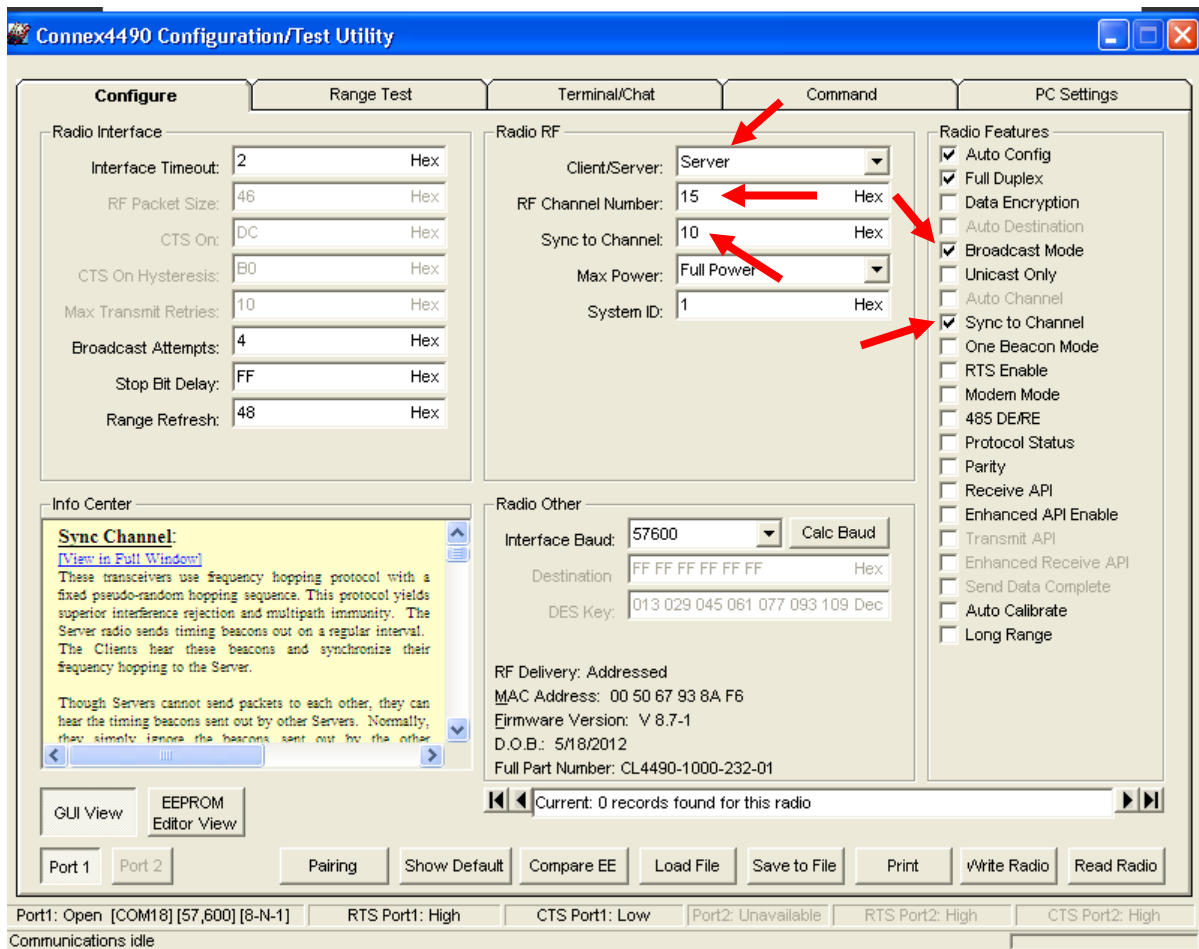

Figure 12: Server #2 settings
- Set Server #2 as a server in **Broadcast Mode** with an RF Channel Number at least 4-5 steps above the RF Channel Number of the Hop Master. Under the Radio Features section, select the **Sync to Channel** box and in the Radio RF section, set the Sync to Channel to the RF channel of the Hop Master (Figure 12). Press the **Write Radio** button to write the changes to the radios EEPROM.